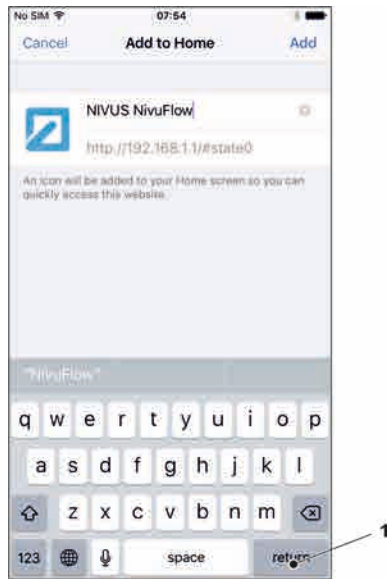

Fig. 31-18 Confirm adding
10. Confirm with “Return” (Fig. 31-18 no. 1).